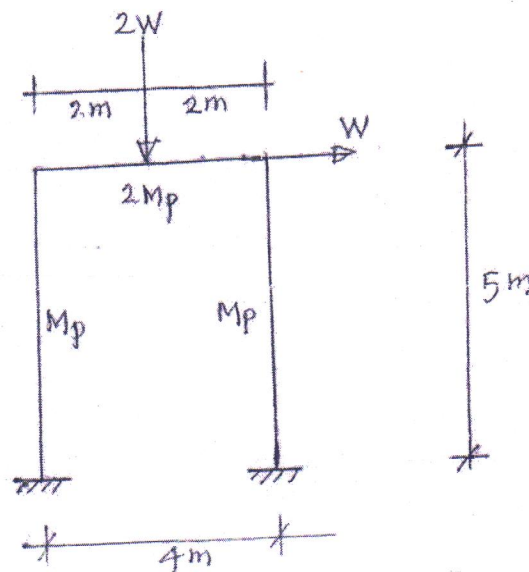

Fig.1
- Q.1 (a) Prove that the Dynamic Magnification Factor is maximum when the frequency ratio is  $\frac{1}{\sqrt{1-2\xi^2}}$ . For 5% damping, show that the dynamic response is ten times the static response. (05)
- (ii) If the mass of the machine is 1500 kg, determine its static deflection. (05)
- $$\phi(x) = C_1 \cdot \sin(\beta x) + C_2 \cdot \cos(\beta x) + C_3 \cdot \sinh(\beta x) + C_4 \cdot \cosh(\beta x) \quad (10)$$
- Q.3 For the frame shown in Fig 1, the mode shapes and modal frequencies are given. (i) Determine the undamped response of the system, when it is subjected to a constant force of 100 kN, at all the floors, for duration of 10 sec. (ii) Determine the damping matrix of the structure if the damping ratio in the first and third mode is 5%. Also find the damping ratio in the third mode.
Q.1 (a) Determine the collapse load in terms of  $M_p$ , for the portal frame shown in Fig.1, indicating structural configuration and loads with positions. The plastic moment capacity of a beam is twice that of a column. If factored load  $W_u = 72$  kN and  $f_y$  of steel = 250 MPa, select the sections required for the beam and columns. (4)